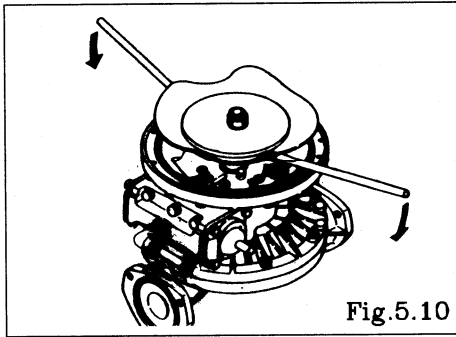

Fig.5.10
□□□ Grip the inside center disk using crowbars and draw it to the opposite side, then turn the Diaphragm over. (exclude B_H, B_S type) [Fig. 5.10, 5.11]